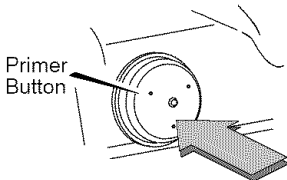

Figure 12
4. Push the **primer button** two times. Remove finger from primer button between pushes (see Figure 12).